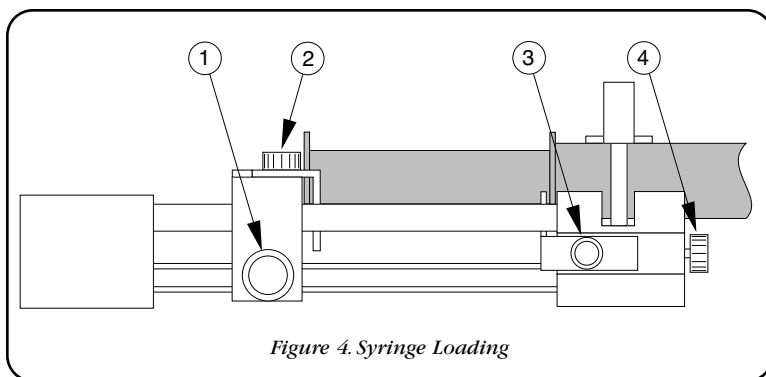

Figure 4. Syringe Loading
3. Take this opportunity to fill out and mail the Warranty Card. The Catalog and Serial numbers are located on the Serial Number label on the rear panel. Refer to Figure 4.